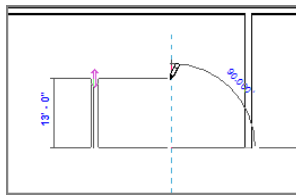

FIGURE 2.19: By using the Offset command as you draw walls, you can use one common centerline.
10. After you pick the 25' (7500mm) distance, move your cursor up, back toward the wall, as shown in Figure 2.19, resulting in a 25' (7500mm)-long wall.